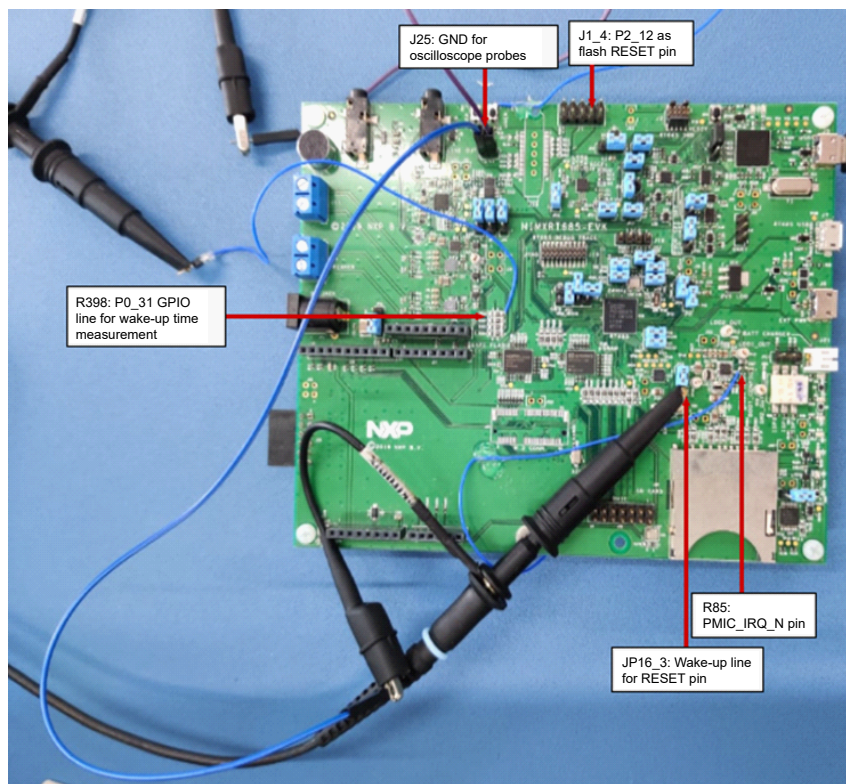

Figure 7. Wake-up time measurements setup for deep power-down and full deep power-down modes
3. Connect both oscilloscope probes with GND on J25. Refer Figure 7 for connection details. Once the connections are done power up the board by connecting USB cable between J5 (if using USB) or J6 (if using UART) and PC.